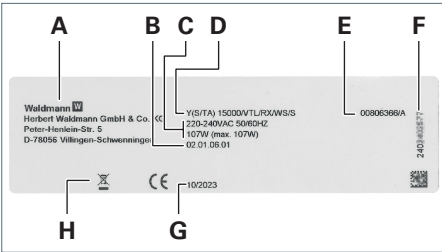

Fig. 34: Rating plate luminaire head (example).
- Existing luminaire head, as of serial number 2402389763, see Fig. 34.